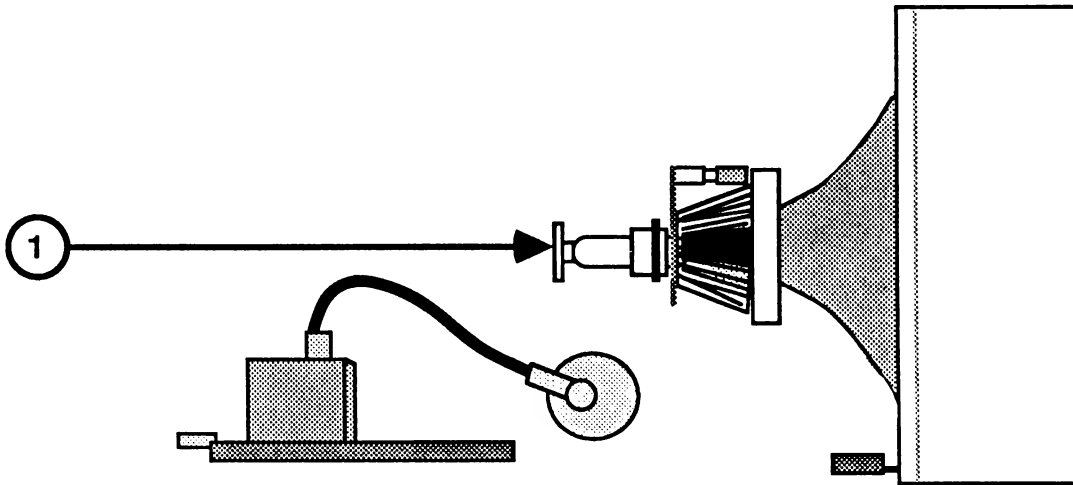

FIGURE 5
10. Gently pull the CRT socket board from the end of the CRT neck (Figure 5, #1).